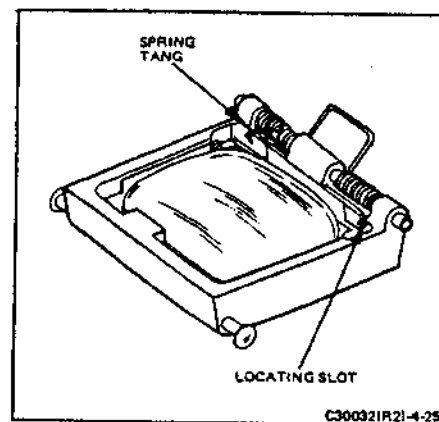

FIGURE 4-25 EYELENS TORSION SPRING
- Locate the two spring ends in the housing as shown in Figure 4-25.